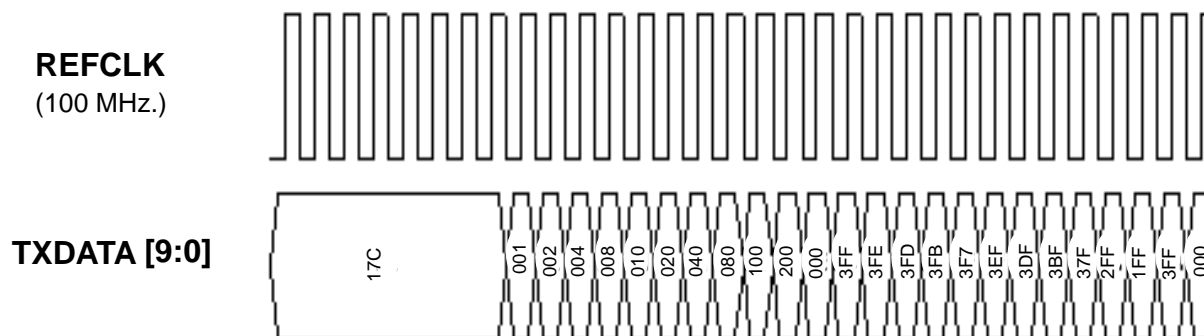

Figure 7-9. Generated Clock and Data Signals for Encoder Bypass Mode from DG2020
1. Load the Cypress supplied file 0404BYP.PDA in DG2020 data generator. If you are using your own data generator, use a waveform similar to the one shown in *Figure 7-9*.